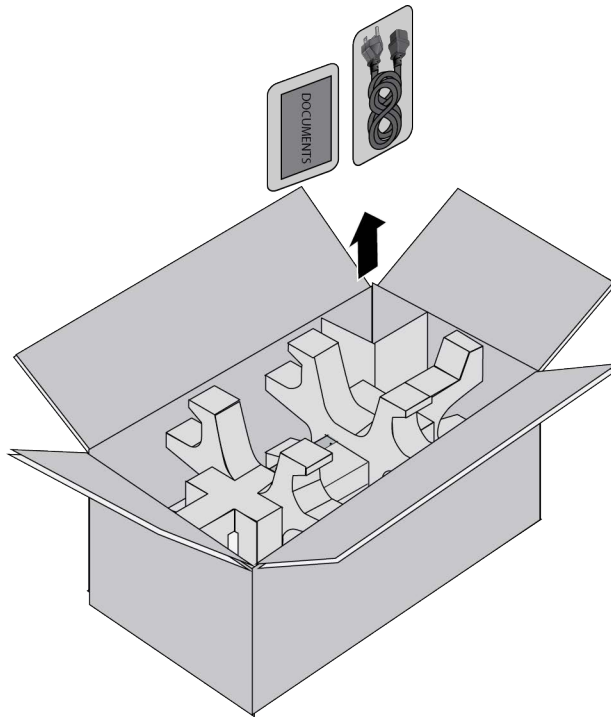

Figure 53. Removing the Power Cord and Documents from the Power Supply Shipping Box
1. Remove the power cord and any documents from the accessory partition. Refer to Figure 53.